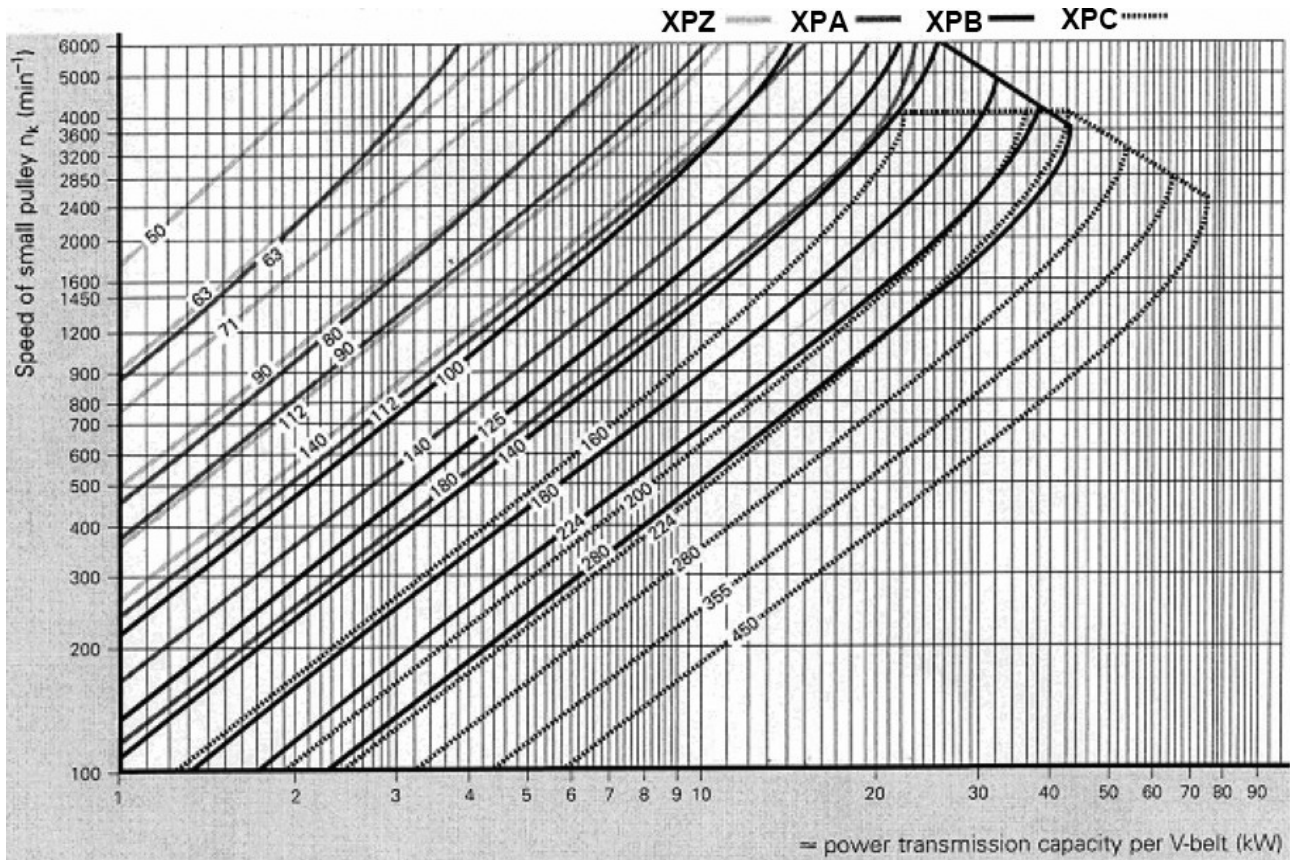
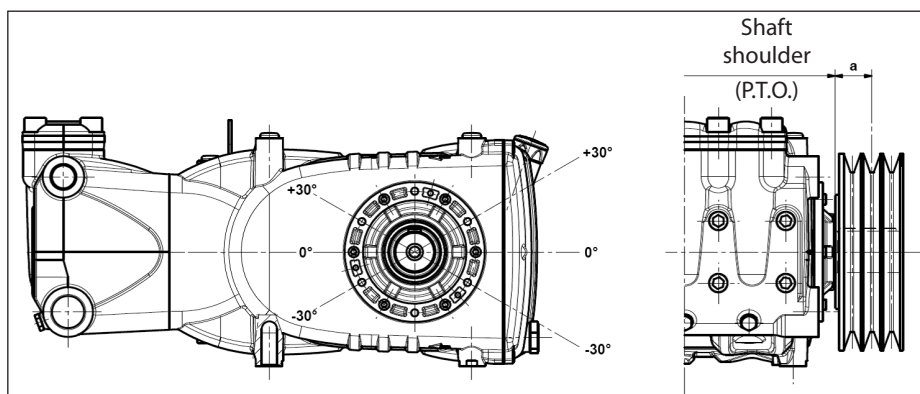

Fig. 7
Fig. 10
For these pump models, we recommend to use No. 3 XPB belts (16.5x13 serrated). Use an XPC profile only for long durations. Both the characteristics and transmissible power of each belt can be verified in the diagram in Fig. 7, in relation to the number of rpm normally declared by the manufacturer. Minimum duct pulley diameter (on pump shaft): ≥ 160 mm. The radial load on the shaft must not exceed 4500 N (value necessary for Layout definition). The transmission is considered adequate if the load is applied to a maximum distance $a = 50$ mm from the shaft shoulder (P.T.O) as shown in Fig. 10.
- b) Use high performance belts – for example **XPB** instead of **SPB** – as a lower quantity of belts for the same transmitted power may be necessary and a consequent shorter resulting distance compared to the shaft shoulder (P.T.O.) "a" of Fig. 10.